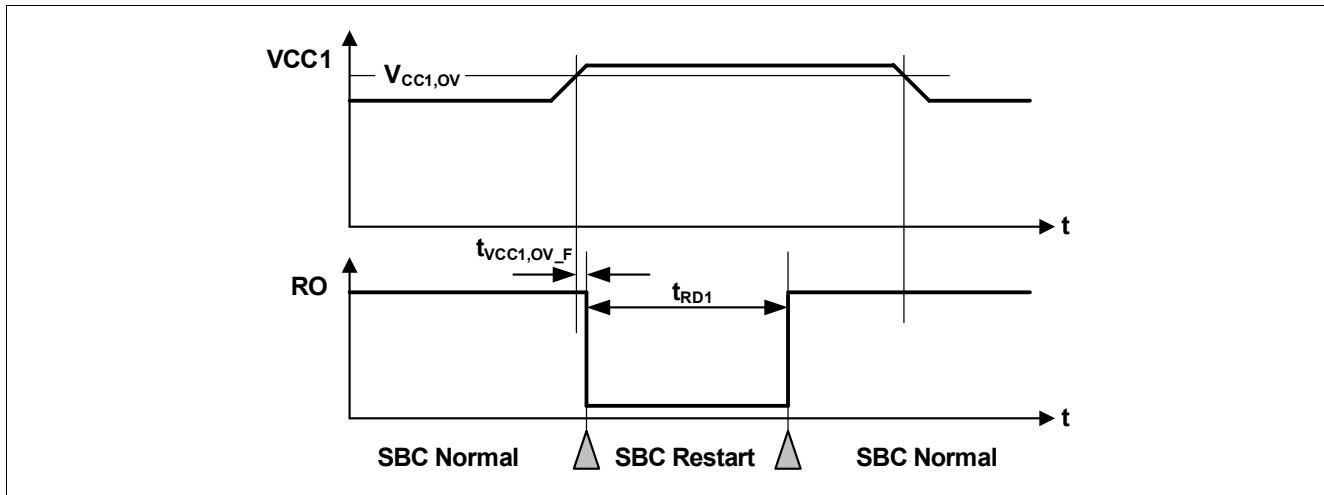

Figure 47 VCC1 Overvoltage Timing Diagram
- If the bit **VCC1_OV_RST** is set and **CFG_P** = '1', then SBC Restart Mode is entered. The FOx outputs are activated. After the reset delay time (t_{RD1}), the SBC Restart Mode is left and SBC Normal Mode is resumed even if the VCC1 overvoltage event is still present (see also Figure 47). The **VCC1_OV_RST** bit is cleared automatically;